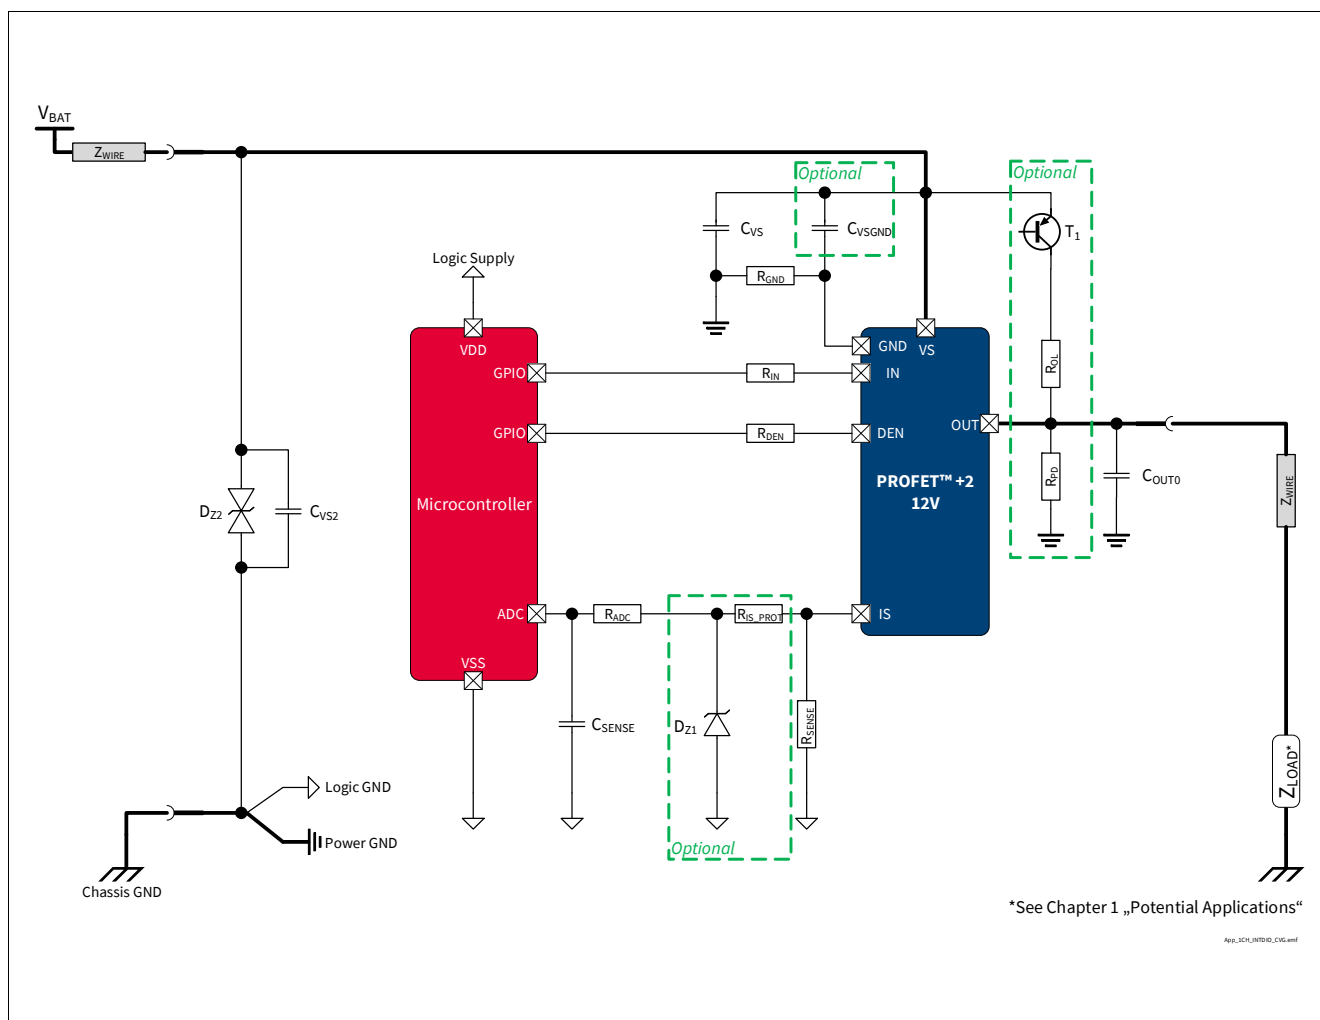

Figure 37 BTS7006-1EPP Application Diagram
1.10 , 2020-12-14	Typo fixed (PROFET™+2 → PROFET™ +2) Figure 1, Figure 16, Figure 17, Figure 18, Figure 20, Figure 21, Figure 22, Figure 25, Figure 29, Figure 30, Figure 34, Figure 37 updated Chapter 1, Chapter 6.1, Chapter 6.1.3, Chapter 6.1.4, Chapter 8.2, Chapter 9.2.2 updated Chapter 8.4.1 updated (typo fixed) P_7.4.5.1, P_7.4.5.2, P_7.4.5.3, P_7.4.5.4, P_7.4.5.6, P_7.4.5.7 updated (added in Note or Test Condition: See Figure 15) P_8.6.4.1 updated (added in Note or Test Condition: See Figure 26) P_8.6.4.2 updated (added in Note or Test Condition: See Figure 27) P_9.6.0.6 updated (Parameter: SENSE Operative Range for k_{ILIS} Operation ($V_S - V_{IS}$) → Saturation Voltage in k_{ILIS} Operation ($V_S - V_{IS}$)) P_9.6.0.7 updated (Parameter: SENSE Operative Range for Open Load at OFF Diagnosis ($V_S - V_{IS}$) → Saturation Voltage in Open Load at OFF Diagnosis ($V_S - V_{IS}$)) P_9.6.0.8 updated (Parameter: SENSE Operative Range for Fault Diagnosis ($V_S - V_{IS}$) → Saturation Voltage in Fault Diagnosis ($V_S - V_{IS}$))
1.04 , 2019-10-15	P_8.7.12.1, P_8.7.12.7, P_8.7.12.8 updated (added in Note or Test Condition: link to Figure 24) P_7.5.12.5 updated (added in Note or Test Condition: see Figure 18) P_7.5.12.12 updated (added in Note or Test Condition: see Figure 20; deleted unnecessary space in Symbol: $dV_{OUT} / dt \rightarrow dV_{OUT} / dt$) P_8.7.12.6 updated (added in Note or Test Condition: see Figure 25) P_9.7.12.1 updated (added in Note or Test Condition: see Figure 32) Figure 1, Figure 37 updated P_4.3.0.7 added Table 22 updated Chapter 5.1 updated (added: see Chapter 10 for the complete application setup overview) Chapter 9.2 updated ($2 V \rightarrow V_{DS(OLOFF)}$) General: updated (ReverSave™ → ReverseON)
1.01 , 2018-06-14	Page numbering corrected Figure Application Diagram, Figure 29, Figure 37 updated